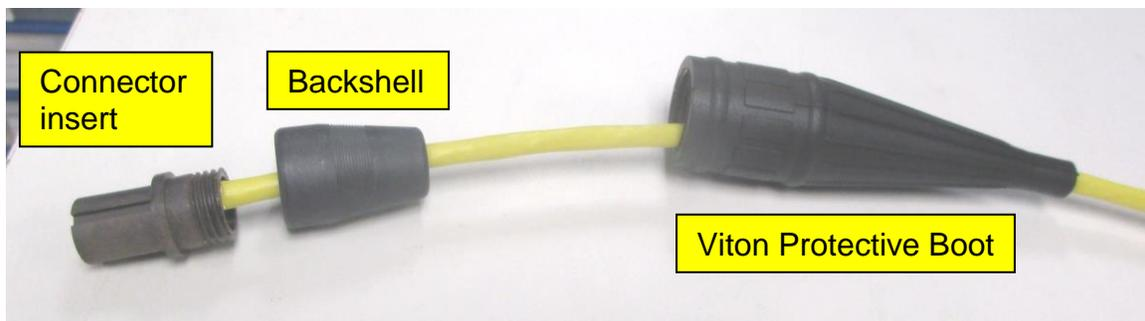

Figure 4
| Figure 4 (CC-V2X & V3X Assembly)..... | 6 |
1. Feed the backshell onto the cable toward the Viton seal-tight boot, as shown in Figure 4 below.